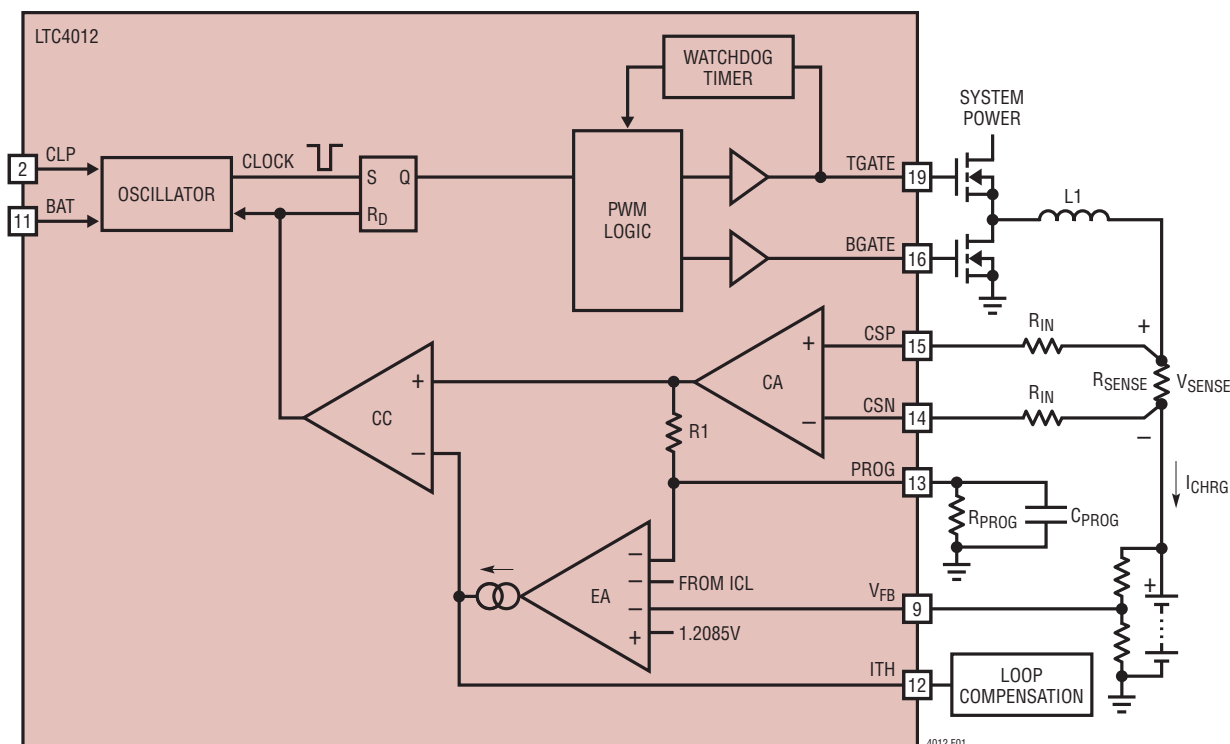

Figure 1. PWM Circuit Diagram
**CSN (Pin 14):** Charge Current Sense Negative Input. Place an external input resistor ( $R_{IN}$ , Figure 1) between this pin and the negative side of the charge current sense resistor. Operating voltage ranges from (BAT – 50mV) to (BAT + 200mV).
**CSP (Pin 15):** Charge Current Sense Positive Input. Place an external input resistor ( $R_{IN}$ , Figure 1) between this pin and the positive side of the charge current sense resistor. Operating voltage ranges from (BAT – 50mV) to (BAT + 200mV).
The LTC4012 is a synchronous step-down (buck) current mode PWM battery charger controller. The maximum charge current is programmed by the combination of a charge current sense resistor ( $R_{\text{SENSE}}$ ), matched input resistors ( $R_{\text{IN}}$ , Figure 1), and a programming resistor ( $R_{\text{PROG}}$ ) between the PROG and GND pins. Battery voltage is programmed with an external resistor divider between FBDIV and GND (LTC4012) or two digital battery voltage select pins (LTC4012-1/LTC4012-2). In addition, the PROG pin provides a linearized voltage output of the actual charge current.
When the LTC4012 is charging, the voltage on the PROG pin varies in direct proportion to the charge current. Referring to Figure 1, the nominal PROG voltage is given by
The LTC4012 uses a synchronous step-down architecture to produce high operating efficiency. The nominal operating frequency of 550kHz allows use of small filter components. The following conceptual discussion of basic PWM operation references Figure 1.